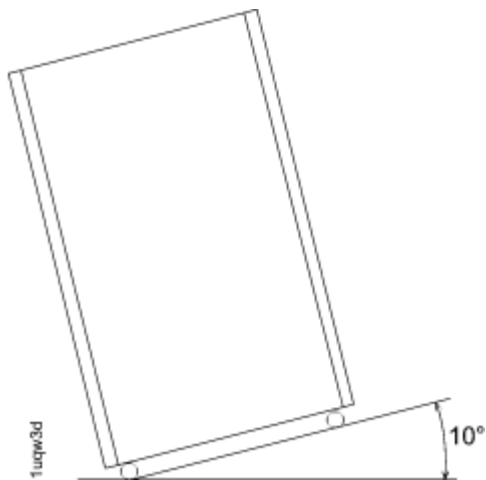

Figure 8. Maximum tilt for a packed frame is 10°
3. To compensate for the weight of the storage system shipment, ensure that the loading ramp at your site does not exceed an angle of 10°. (See Figure 8 on page 109.)